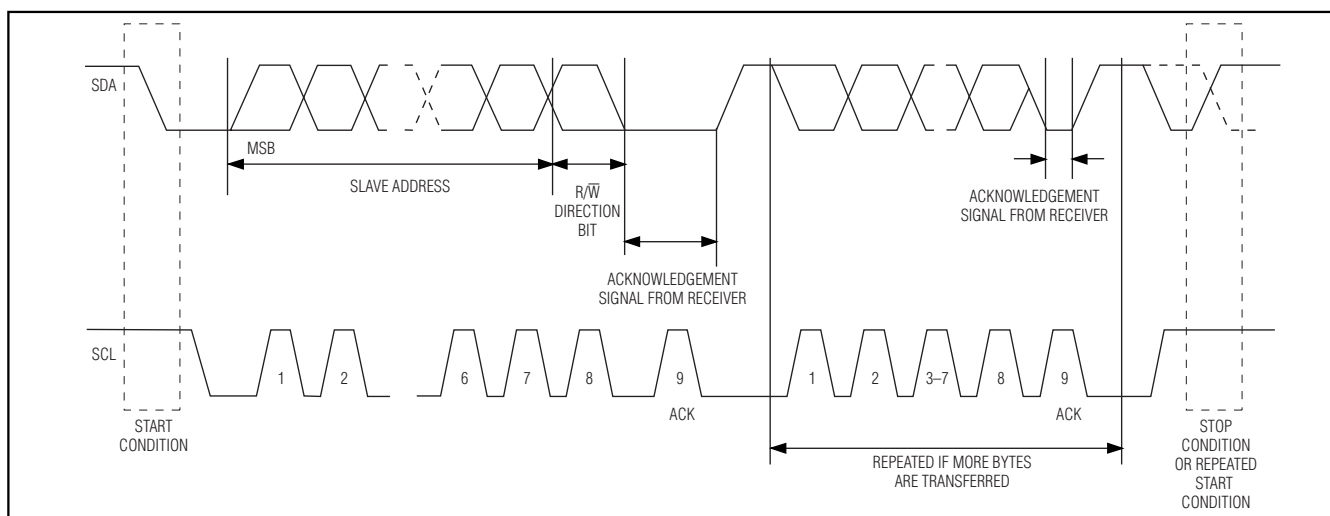

Figure 5. 2-Wire Data Transfer Protocol
**Clock and Data Transitions:** The SDA pin is normally pulled high with an external resistor or device. Data on the SDA pin may only change during SCL-low time periods. Data changes during SCL-high periods will indicate a start or stop condition depending on the conditions discussed below. See the timing diagrams in Figures 5 and 6 for further details.
**Start Condition:** A high-to-low transition of SDA with SCL high is a start condition, which must precede any other command. See the timing diagrams in Figures 5 and 6 for further details.
**Stop Condition:** A low-to-high transition of SDA with SCL high is a stop condition. After a read or write sequence, the stop command places the DS1857 into a low-power mode. See the timing diagrams in Figures 5 and 6 for further details.
The 2-wire serial port interface supports a bidirectional data transmission protocol with device addressing. A device that sends data on the bus is defined as a transmitter, and a device receiving data as a receiver. The device that controls the message is called a master. The devices that are controlled by the master are slaves. The bus must be controlled by a master device that generates the serial clock (SCL), controls the bus access, and generates the start and stop conditions. The DS1857 operates as a slave on the 2-wire bus. Connections to the bus are made through the open-drain I/O lines SDA and SCL. The following I/O terminals control the 2-wire serial port: SDA, SCL. Timing diagrams for the 2-wire serial port can be found in Figures 5 and 6. Timing information for the 2-wire serial port is provided in the *AC Electrical Characteristics* table for 2-wire serial communications.
**Data valid:** The state of the data line represents valid data when, after a start condition, the data line is stable for the duration of the high period of the clock signal. The data on the line can be changed during the low period of the clock signal. There is one clock pulse per bit of data. Figures 5 and 6 detail how data transfer is accomplished on the 2-wire bus. Depending upon the state of the R/W bit, two types of data transfer are possible.